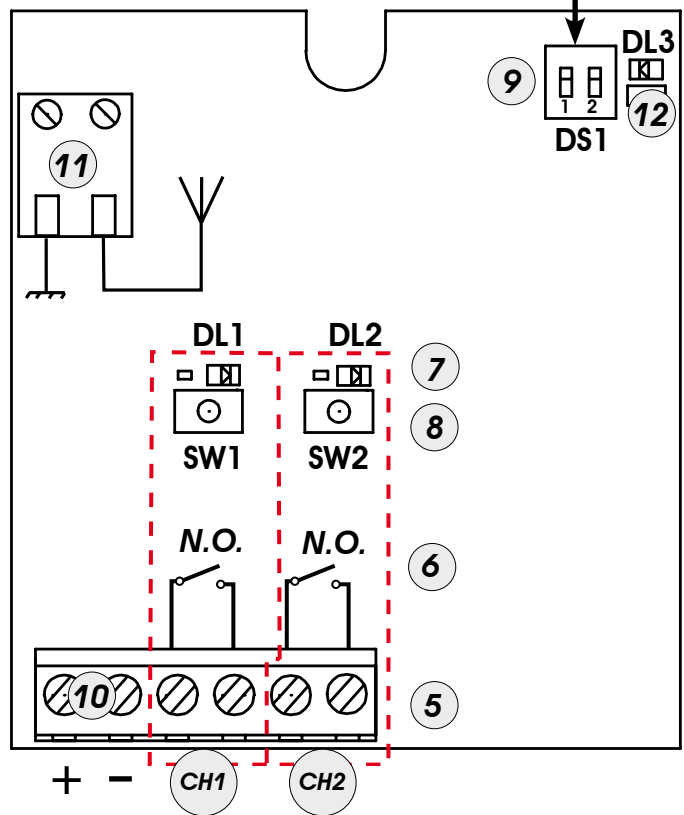

Fig.1
- 2) Press for 1 second the push-button on the receiver (Fig. 1 ref. ⑧) relating to the channel you wish to associate with the radio control.
- 3) The relevant LED on the receiver (Fig. 1 ref. ⑦) begins to flash slowly for 5 secs.
- 5) The relevant LED (Fig. 1 ref. ⑦) lights up on steady beam for 1 second and then goes OFF, indicating that storage was executed.
- 4) Press, for 1 second, the push-button on the receiver (Fig. 1 ref. ⑧) relating to the channel you wish to associate with the radio control.
- 5) The relevant LED on the receiver (Fig. 1 ref. ⑦) begins to flash slowly for 5 secs.
- 7) The LED on the board (Fig. 1 ref. ⑦) lights up on steady beam for 1 second and then goes OFF, indicating that storage was executed.
- 1) Press, for 1 second, the push-button on the receiver (Fig. 1 ref. ⑧) relating to the channel you wish to associate with the radio control.
- 2) The relevant LED on the receiver (Fig. 1 ref. ⑦) begins to flash slowly for 5 secs.
- 4) The LED on the receiver (Fig. 1 ref. ⑦) lights up on steady beam for 1 second, indicating memory storage executed, and then resumes flashing for another 5 secs., during which another radio control can be memory stored.
- b) Press and simultaneously hold down push-buttons P1 and P2 until the flashing light of the LED (Fig. 1 ref. ⑦) on the receiver board lights up.
- f) The LED (Fig. 1 ref. ⑦) lights up on steady beam for 2 seconds, indicating memory storage executed, and then resumes flashing for 5 secs., during which point "e" can be repeated, and also the subsequent points, for other remote controls and finally goes OFF.
- 1) To delete **ALL** the radio control codes associated with channels 1 and 2, hold down push-button SW1 or SW2 (Fig. 1 ref. ⑧) for 10 seconds.
- 2) The LED (Fig. 1 ref. ⑦) relating to the pressed push-button flashes for the first 5 secs., and then flashes more quickly for the next 5 secs.